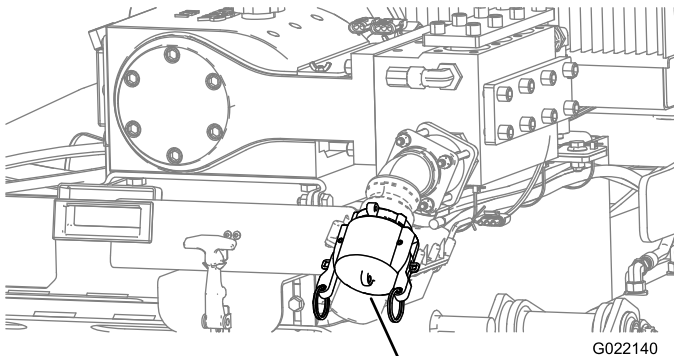

Figure 150
- C. Ensure that the cap is installed on the drilling-fluid pump inlet (Figure 150).